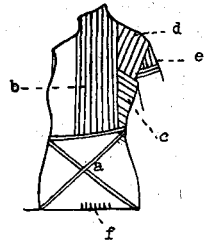
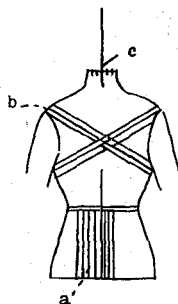

Fig. 1
Fig. 2
(b) Paste strips diagonally on front and back from neck to waist, and from waist to hip line, Fig. 1, a. These hold shirt in place.
(c) Paste overlapping strips down center to waist line, front and back, beginning at top of collar line, Fig. 1, b. Paste strips from the center strip on each side until paper will no longer fit on smoothly. Only a few center strips can extend up on the collar. Fullness of the figure determines how far these strips may be used. Paste strips in similar way from waist line to hip line, Fig. 2, a.
(d) Use shorter strips. Paste strip from right bust, diagonally, close under the arm, downward and backward toward the waist at the center back, Fig. 1, c. Then paste a strip from right shoulder in back, close under arm, downward and forward toward waist in front. Continue to alternate these strips, working downward, fitting over the waist and hips to the lower hip line. The ends of these strips should meet the straight strips on the side front and side back. These side body strips should cross under the arm, from the arm to hip.
(e) To build out the shoulder from the straight strips in front and back, paste short strips from bust up over shoulder and from shoulder-blade up over the shoulder, overlapping the ends on the shoulder, Fig. 1, d.
- (h) Shoulder Cap. Paste strips across the arm about 4 inches below point of shoulder and attach these to the body of the form, front and back, to form the sleeve cap. Use short strips to fill in between the shoulder and the cap line, Fig. 1, e.
- (b) Paste strip from right shoulder downward across front, and end close up under left arm. Paste strip from left shoulder downward across front, and end close up under right arm, crossing the first strip in center front, Fig. 2, b. Continue, alternating strips from each side, downward to bottom of form.
1. With short strips, bind edges of collar, sleeve caps, and lower edge of form, overlapping as usual, Fig. 1, f, Fig. 2, c.